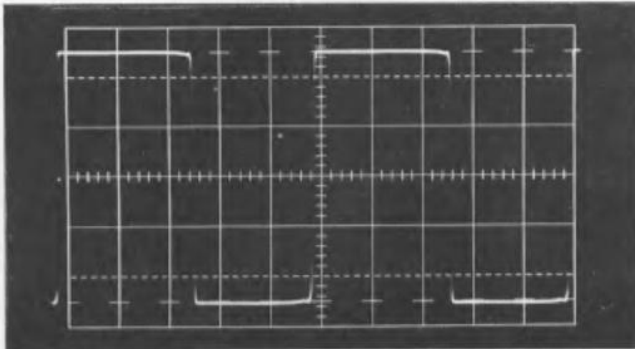

Fig. 4-18. Crt display of pulse aberrations.
a. Set the Type 547 TIME/CM (B) switch to $.2 \mu\text{SEC}$. Set the Type 1A1 VOLTS/CM switch to 2.
d. Rotate the Type 114 WIDTH — VARIABLE control for 2 complete cycles in the 10 cm of the graticule (see Fig. 4-18).
e. Check that the aberrations, such as those shown in Fig. 4-18 do not exceed 5% peak-to-peak ($2\frac{1}{2} \text{ mm}$ or $1\frac{1}{4}$ minor graticule division).
g. Change the AMPLITUDE switch back to $+3$ to 10 V . Change the Type 547 TIME/CM (B) switch to $.1 \mu\text{SEC}$ and obtain a stable display.